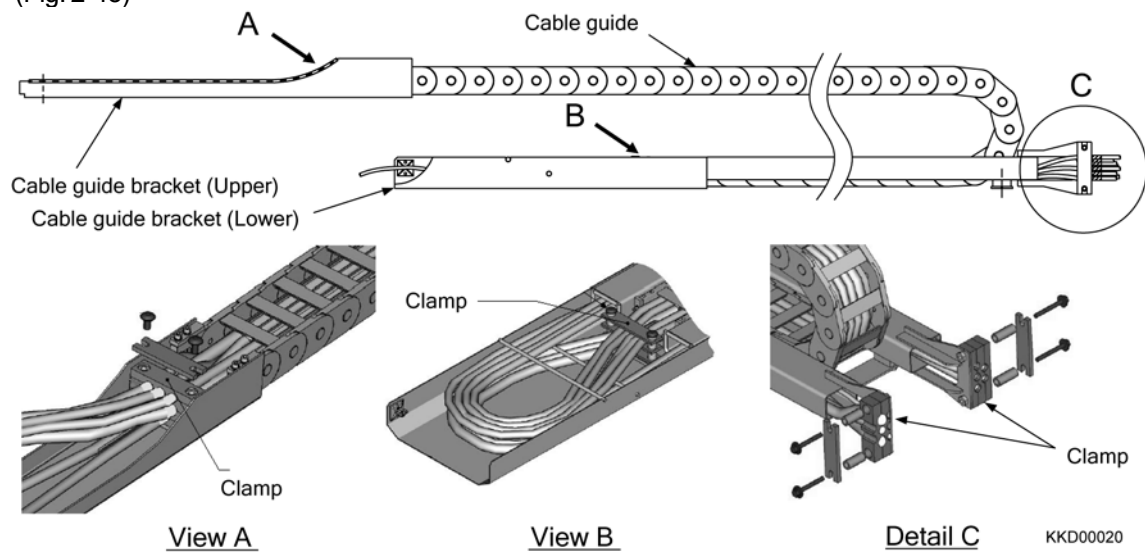

Fig. 2-45
- 24) Remove clamps, and then pull out the cables and hoses from the cable guide bracket (Lower). (Fig. 2-45)